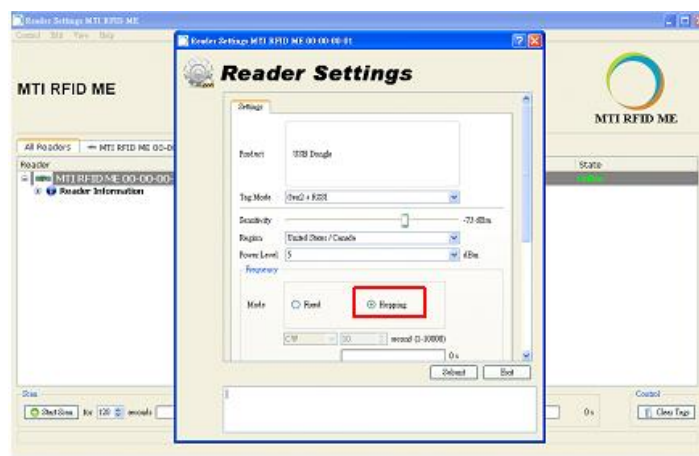

Figure 13
- Hopping : Select frequency hopping to perform an Inventory Run (Start Scan) as shown in Figure 13.